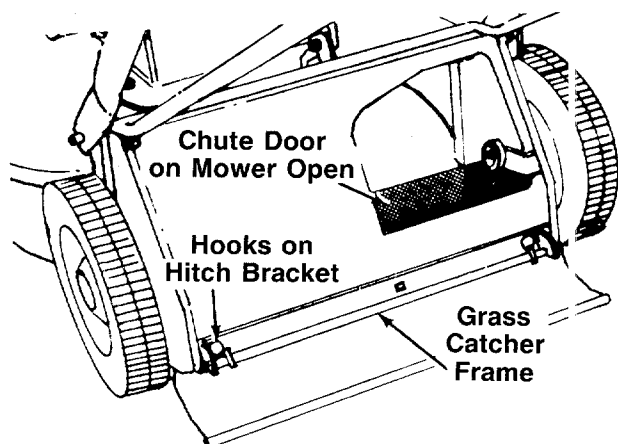

FIGURE 15.
1. Attach the grass catcher frame to grass catcher hitch bracket on rear of the mower by hooking grass catcher into hooks on grass catcher hitch bracket. See figure 15.
2. Lift the rear of grass catcher up. The roller on the grass catcher will push the chute door on the mower open. See figure 15.
Figure 15 is shown with the chute door open for clarity only.